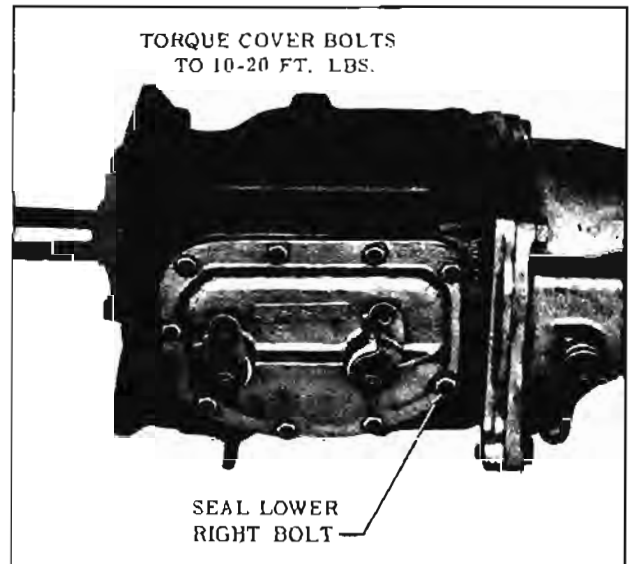

Fig. 11-257 Side Cover Installation
6. Apply a sealer such as P.O.B. #3 to the lower right cover bolt and install all bolts. Torque evenly 10-20 ft. lbs. (Fig. 11-257)